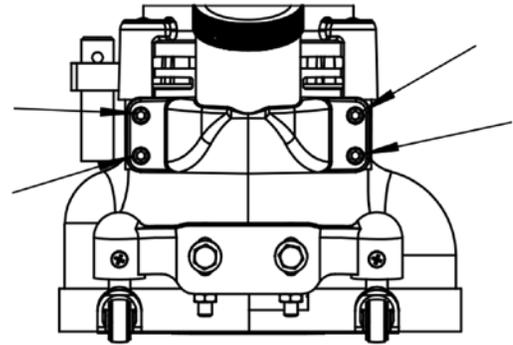

Figure 7
- 1 Remove the four screws that hold the exhaust pipe to the housing. See Figure 7.